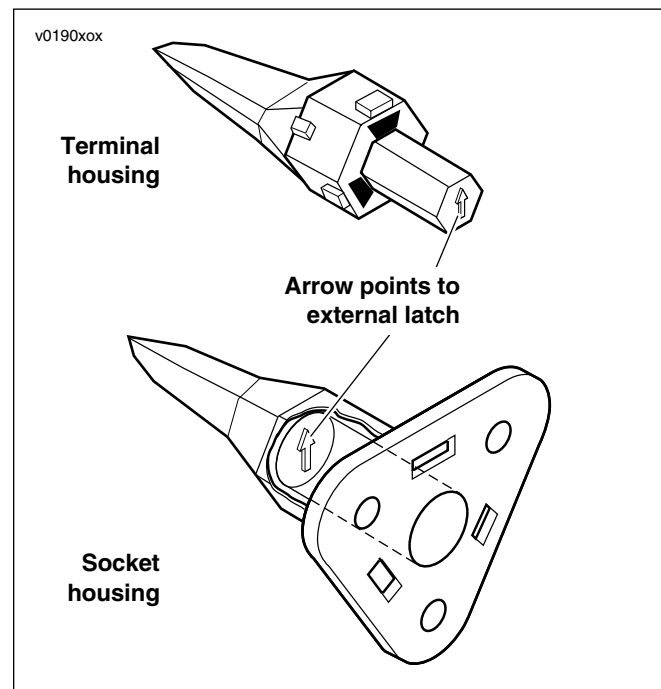

Figure 5-9. Depress Terminal Latches/Back Out Terminals
- While rectangular wedges do not require a special orientation, the conical secondary locking wedge of the 3-terminal connector must be installed with the arrow pointing toward the external latch. See Figure 5-9.